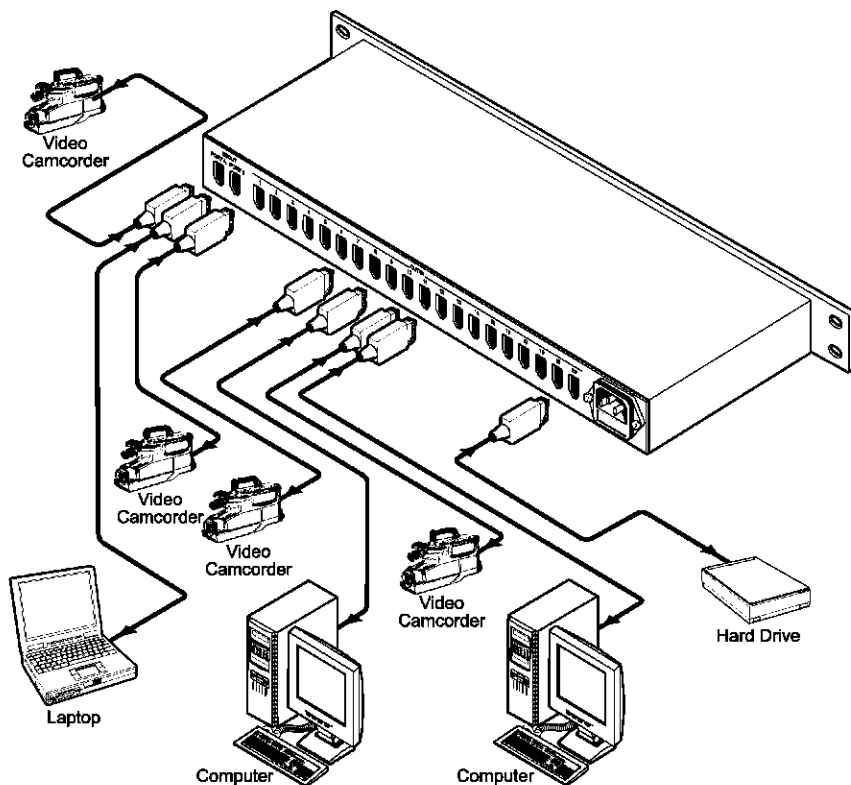

Figure 2: Connecting the VM-20FW 1:20 FireWire Distributor/Hub
To connect the **VM-20FW 1:20 FireWire Distributor/Hub**, as the example in Figure 2 illustrates, do the following:
3. Connect the power cord (not illustrated in Figure 2).
¹ In the example in Figure 2